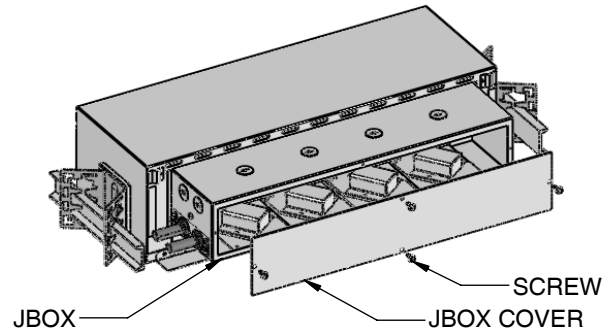

Figure 2
7. Remove the JBOX COVER from the JBOX by removing the four SCREWS. Connect supply lead wires to junction box lead wires in accordance with your local electrical code(s) or N.E.C. Replace JBOX COVER onto JBOX, securing with SCREWS. See Fig 2.